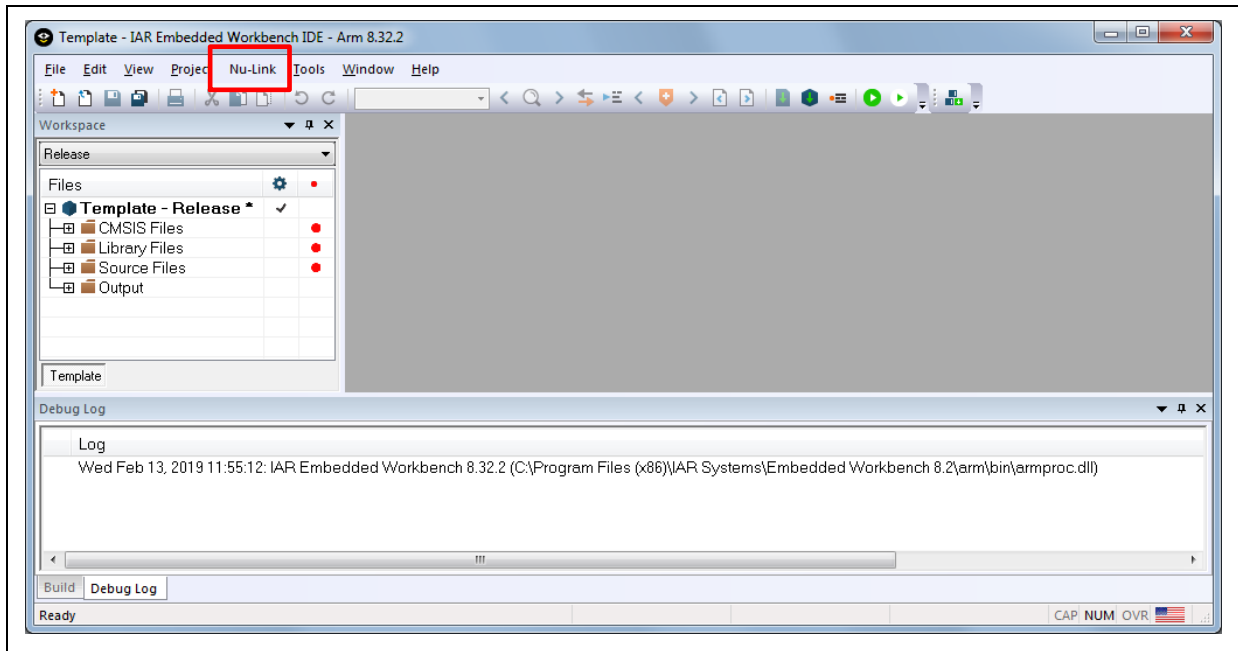

Figure 3-15 IAR EWARM Window
2. Make sure the toolbar contain “Nu-Link” item as shown in Figure 3-15.